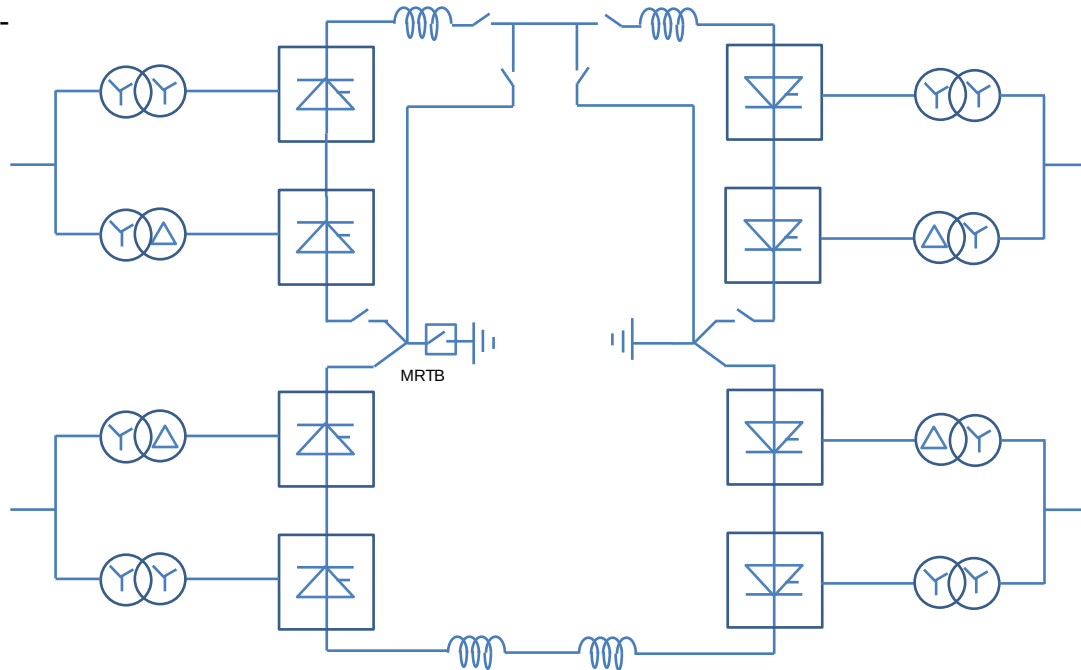

Figure 4. Bipolar configuration with monopolar metallic return for pole outage
- For a pole outage, in case long-term earth current flow is undesirable, the bipolar configuration could be ran in monopolar metallic return mode. This is only possible if adequate DC arrangements are provided, as presented in Figure 4. Current transfer to the metallic path and back without interruption demands a Metallic Return Transfer Breaker (MRTB) and other special purpose switchgear in the terminal earth path. When a short interruption of power flow is allowed, such circuit breaker is not necessary.